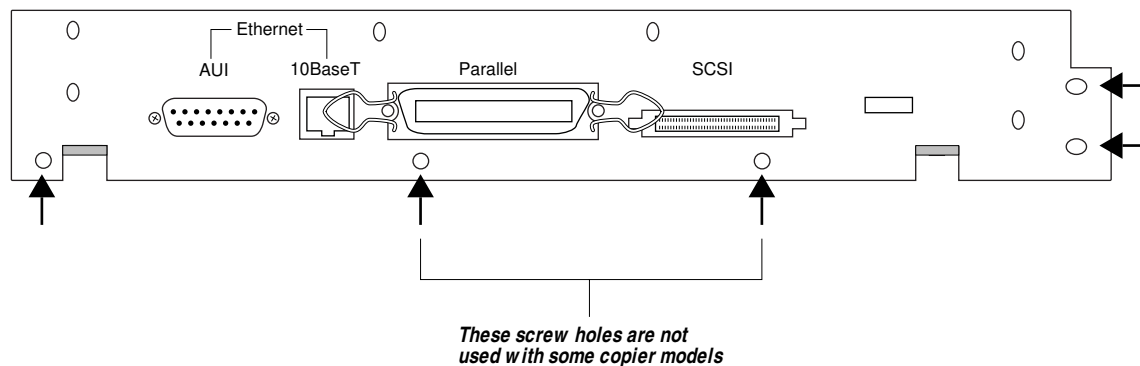

Figure 2-16 Installing screws in the faceplate
5. **Access the rear of the copier and insert the five screws that secure the faceplate to the copier (see Figure 2-16).**